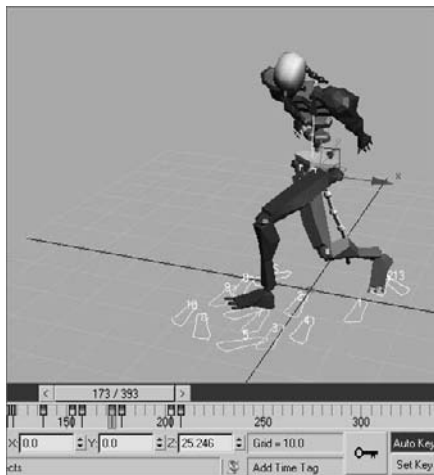

Figure 9.26
- To prepare the biped to leap, select the Bip01 object and move it downward, causing the biped to bend its knees more. Rotate the spine links, neck, and head to bend the torso forward and tuck the chin. Rotate both arms backward into a pre-jump posture, as shown in Figure 9.26. Be sure to choose Local as the reference coordinate system for the Rotate transform.